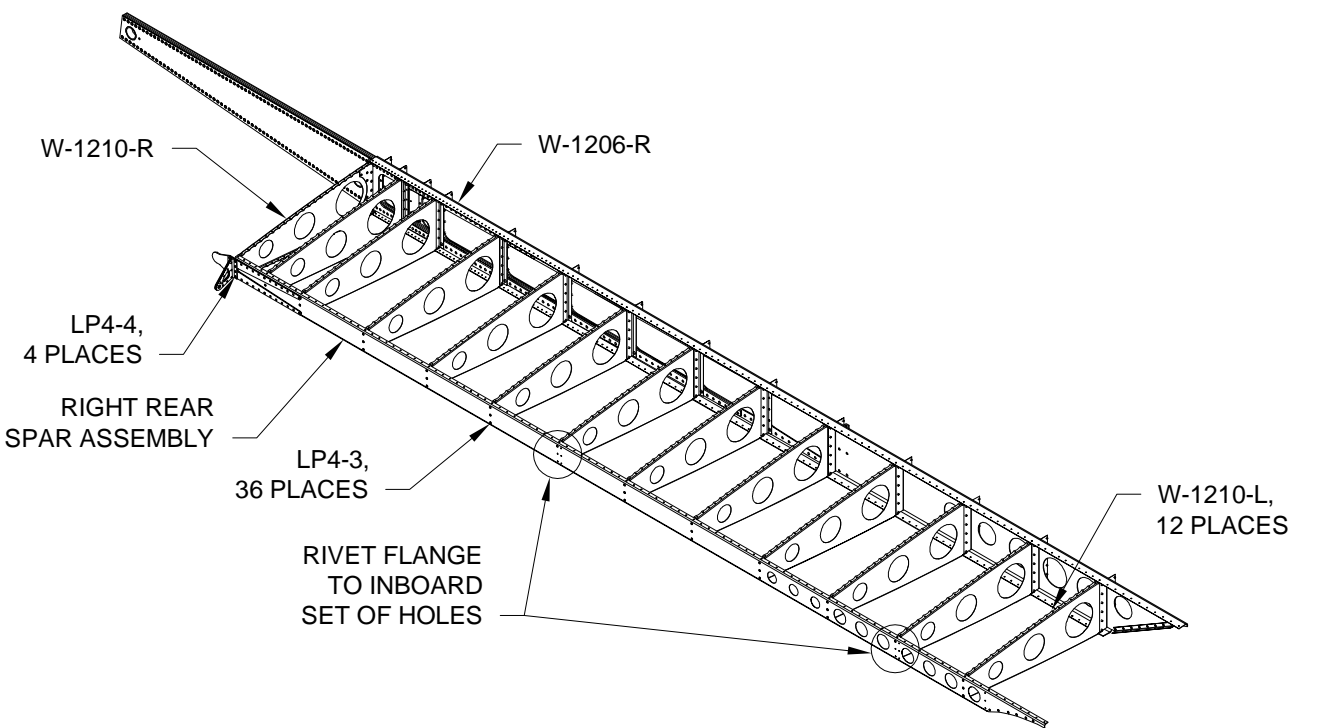

FIGURE 4: ATTACHING THE REAR SPAR
Step 10: Take the Right Rear Spar Assembly and cleco then rivet to the aft flanges of the W-1210 Main Ribs as shown in Figure 4.